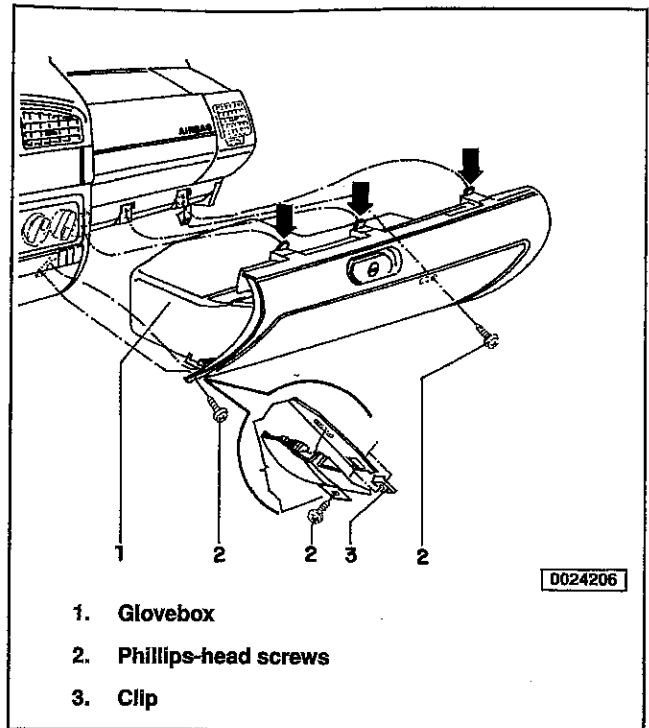

Fig. 28. Glovebox in knee bar as installed in later vehicles that have a passenger side airbag. Be sure tabs (arrows) are disengaged when removing.
1. Remove the lower Phillips head screws. See Fig. 28.